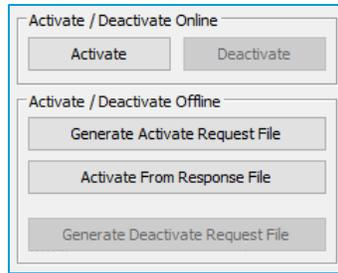
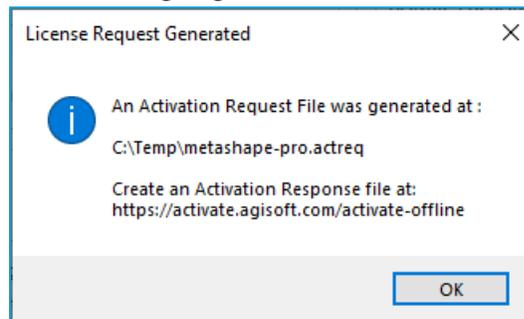

Figure 17 – Agisoft Ortho Mapping Offline Activation/Deactivation
Figure 20 - License Request Generated
9. This will activate the **Generate Activate Request File** option (Figure 17). Selecting this option will allow you to create an offline activation request file by browsing for the activation parameter file, “metashape-pro.actparam”, obtained from the Agisoft offline activation website and save the activation request file, “metashape-pro.actreq”. You will see the License Request Generated confirmation dialog (Figure 20).
17. Select **Activate from Response File** (Figure 17) and browse for the activation response file, "metashape-pro.actresp" to activate this Agisoft Ortho Mapping license on this machine.
This will activate the **Generate Deactivate Request File** option (Figure 17). Selecting this option will allow you to select a folder in which to create the offline deactivate license request file(s), “deactivate*.actreq”. You will get a confirmation dialog with the number of licenses that have been deactivated and the location where to find the deactivation request file(s).